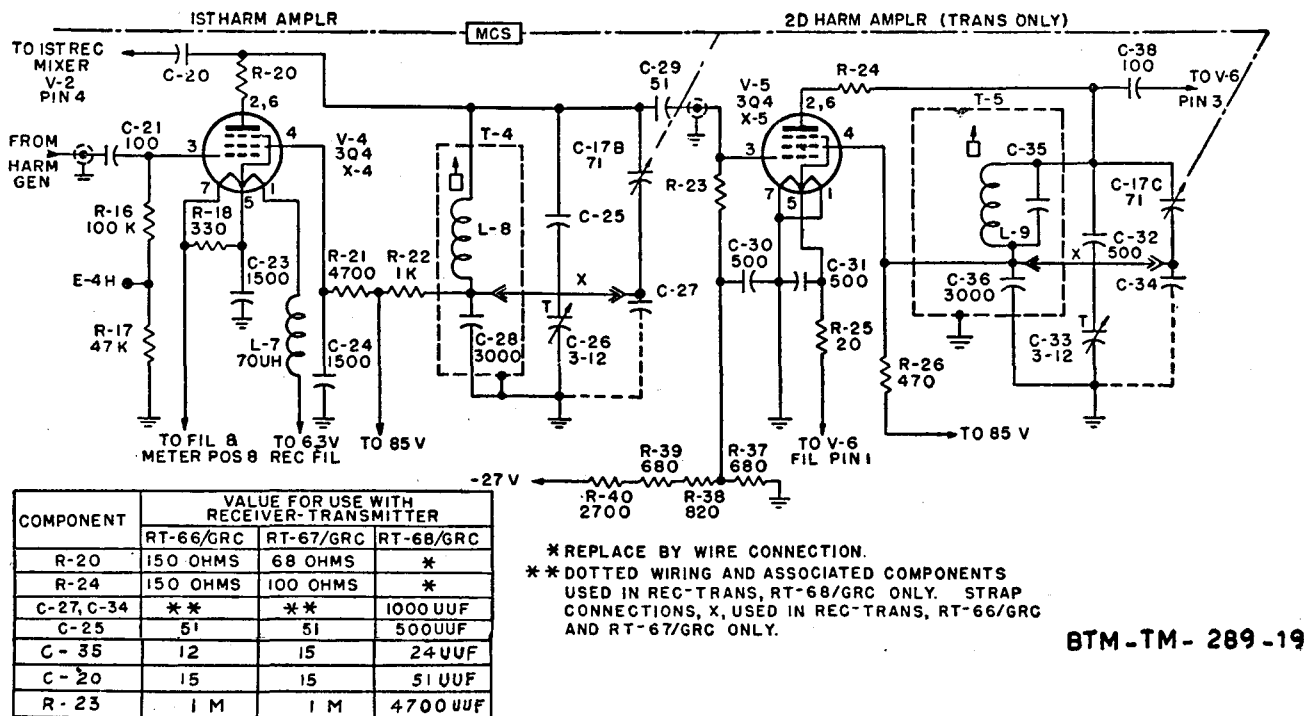

Figure 16. Harmonic amplifier, functional diagram.
(2) Table I lists the crystal frequencies, and table II lists the corresponding harmonic frequencies used for each of the three receiver-transmitters. In the case of Receiver-Transmitter RT-66/GRC and Receiver-Transmitter RT-67/GRC, the plate circuit of the harmonic generator is tuned to the harmonic of the crystal which corresponds to the final frequency required at the grid of the receiver mixer tube, V-2. In the case of Receiver-Transmitter RT-68/GRC, a higher order of crystal harmonic is required over part of the band. In this case, the plate circuit of the harmonic generator selects a frequency which is one-half of the final frequency desired. This frequency is then doubled in the following harmonic amplifier stage.
(3) Capacitor C-17 is ganged with crystal switch S-1. It turns when the MCS control on the front panel is turned. It does not turn when the TENTH MCS control is turned.
23. Harmonic Amplifiers V-4 and V-5 (fig. 16)